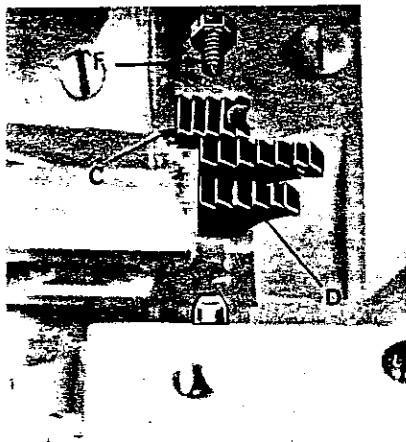

fig.12
8. Mounting and setting Feed Dogs (figures 12 and 13)
- Mount rear feed dogs C and D (fig. 12) and match the feed dog slides.